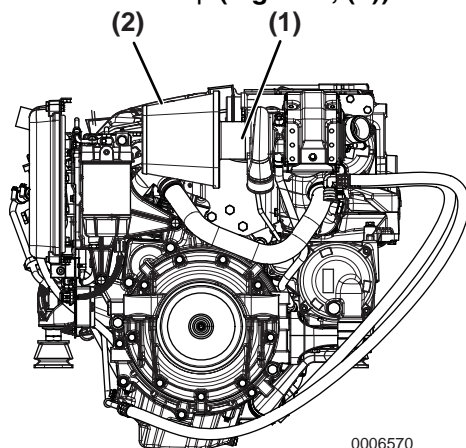

Figure 9
3. Remove clamp (**Figure 9, (1)**).
4. Remove air filter (**Figure 9, (2)**).